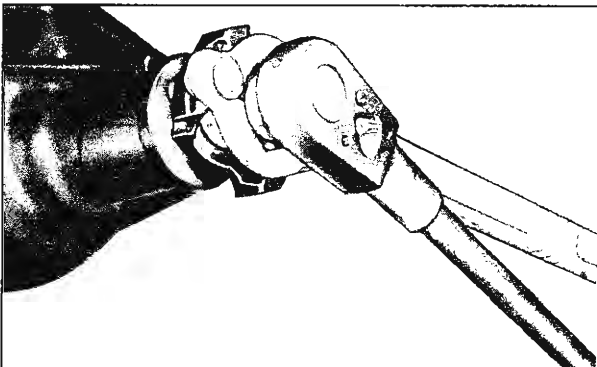

Fig. 46—Drive Pinion Nut Removal
5. Install Tool J-8614-1 on pinion flange and remove pinion flange nut and washer (fig. 46). (Position J-8614-1 on flange so that the four notches are toward flange.) Discard nut and use a new one upon reassembly.